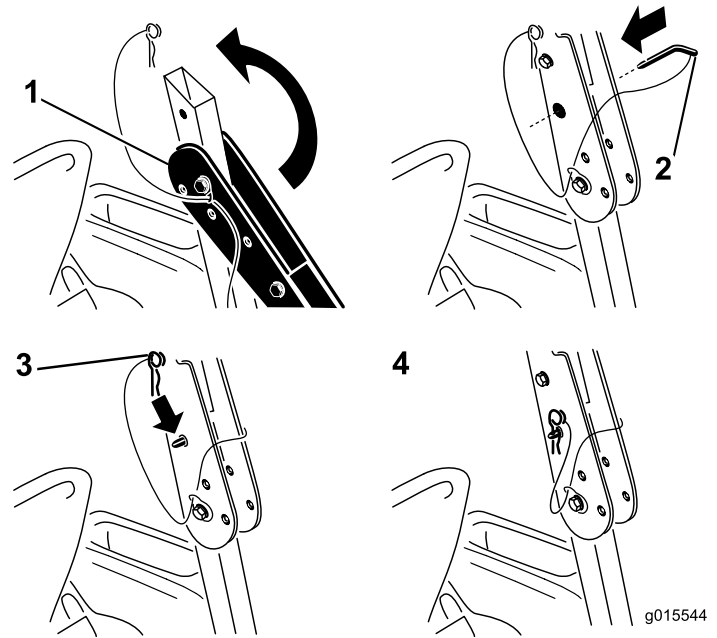

Figure 5
4. Raise the rollbar into the upright position and lock it in place with both pivot pins as shown in Figure 5.
5. Lock the rollbar in the upright position with the pivot pins. Use the hairpins at the end of each lanyard to secure the pivot pins (Figure 5).